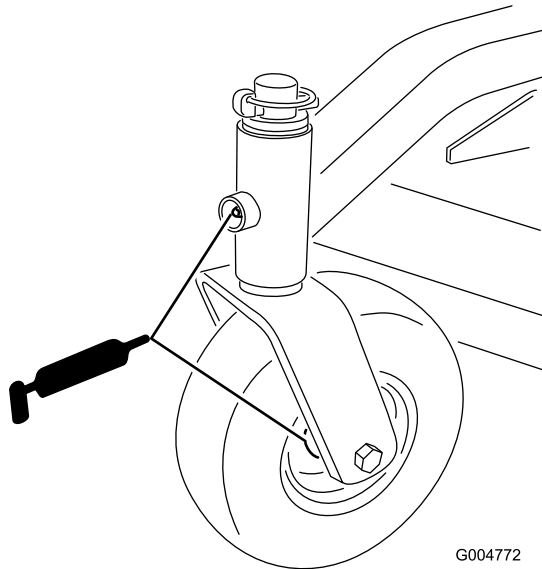

Figure 21
1. Lubricate the front caster wheel bearings and front pivots (Figure 21).
4. Remove rear wheel grease cap. Lubricate the rear wheel bearing (Figure 21).